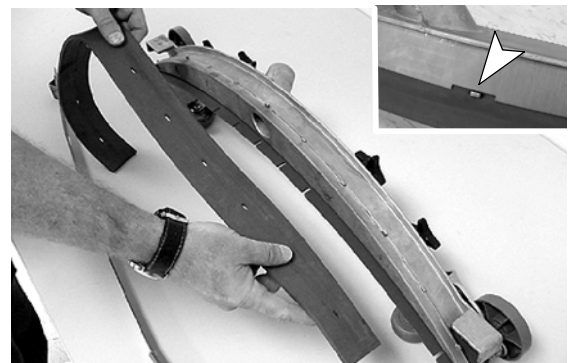

FIG. 59
3. Rotate the rear blade to a new wiping edge and reinstall the band. Make sure the notched edge of the band is facing downward (Figure 59).